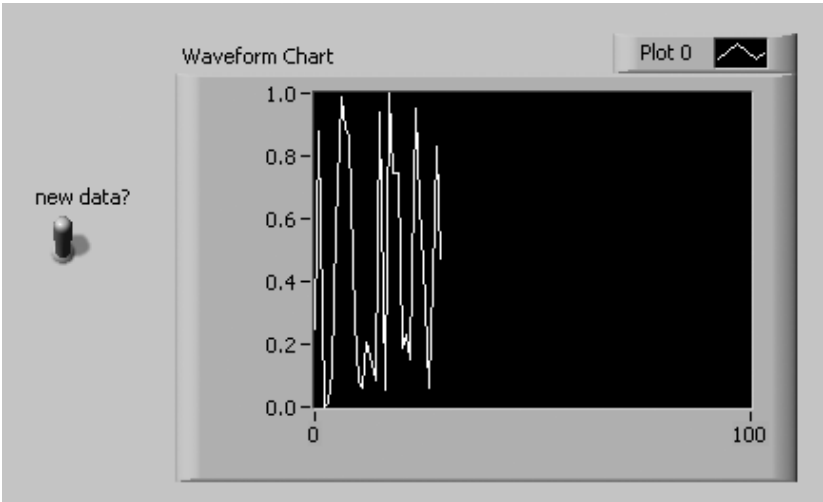

Figure 15.35
1. Create the simple **Chart.vi**, as shown in Figures 15.35 and 15.36.